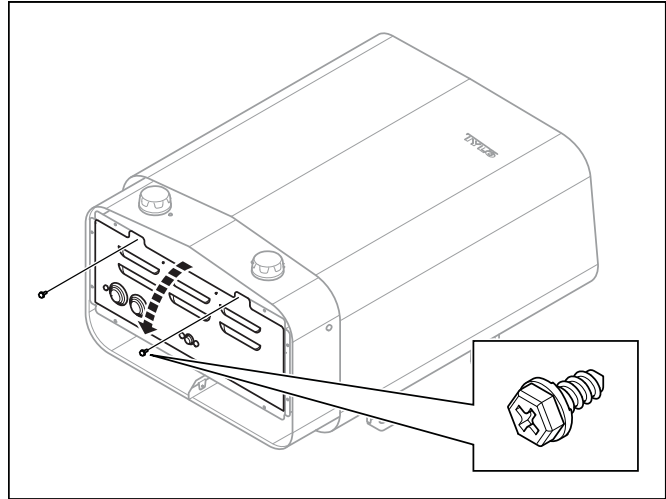

Figure 4: Opening/closing the cover
- at the maximum possible distance from the inlet vent, e.g. diagonally (see Figure 4, Page 2)
- high on the wall or in the ceiling (see Figure 4, Page 2).
Remove the screws and open the cover (see Figure 4, Page 3).
Close the cover and tighten the screws (see Figure 4, Page 3).